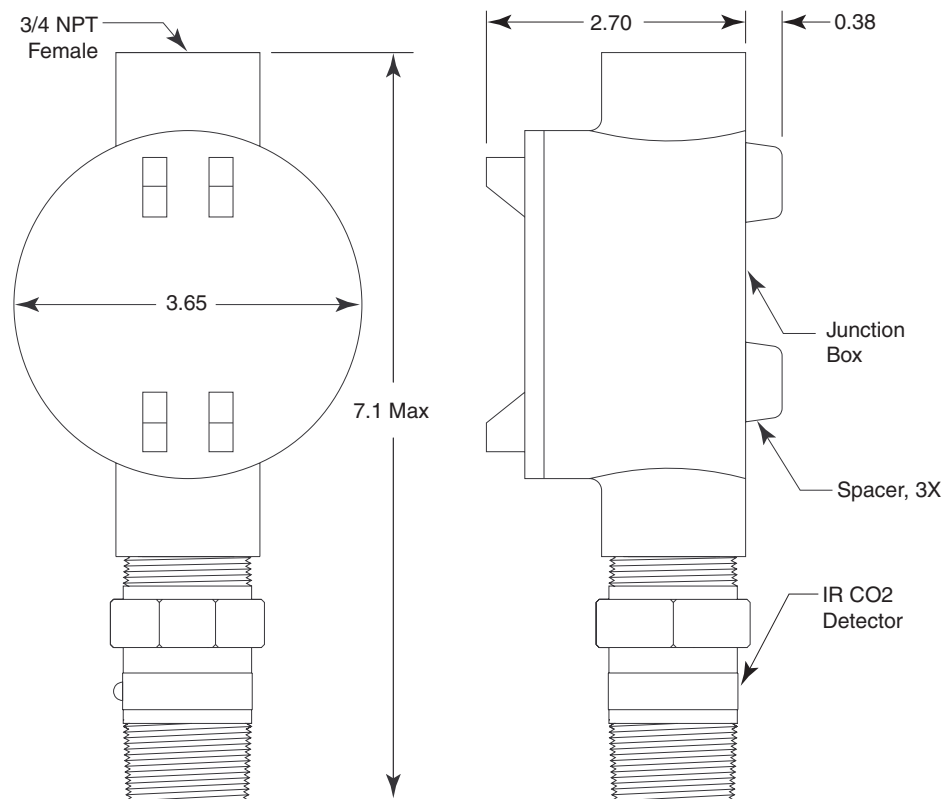

Figure 2: Mounting the CO₂ Detector
2. At the mounting site you select, hang or mount the junction box with the detector facing down (see Figure 2).